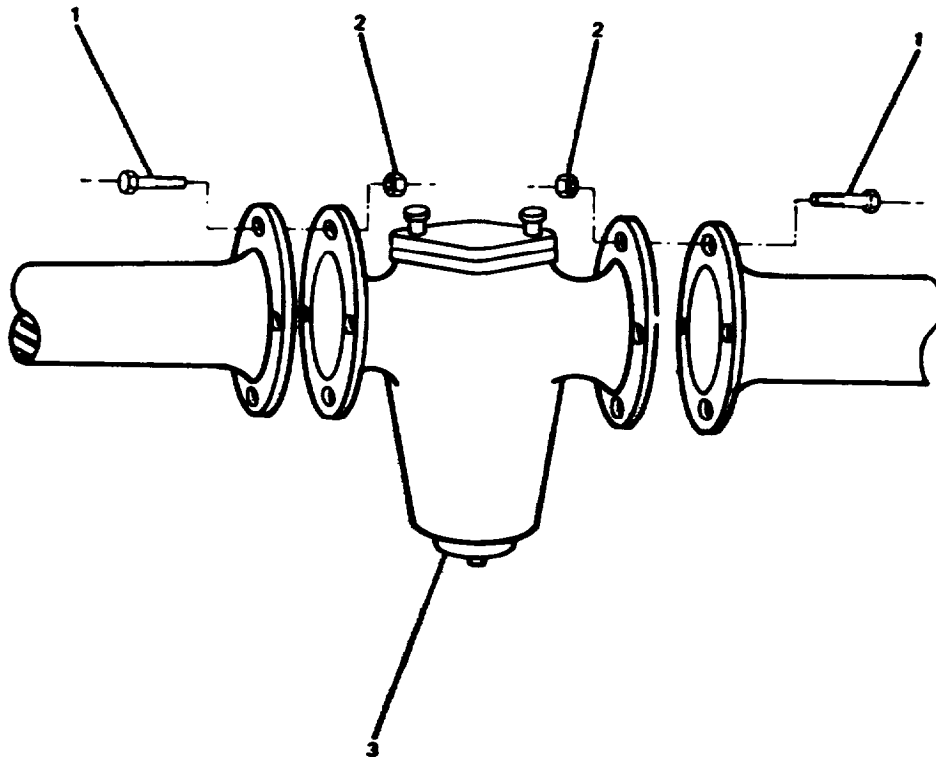

FIGURE 2-246. 2-1/2 Inch Sediment Strainer Basket, Removal.
- a. Place a drip pan under 2-1/2 inch sediment strainer (3, FIGURE 2-246).
- b. Remove flange nuts (2) and bolts (1).
- c. Remove sediment strainer (3).
- a. Install 2-1/2 inch sediment strainer (3, FIGURE 2-246) and attach with bolts (1).
- b. Install nut (2) and torque to 50 ft-lb (68 N•m).